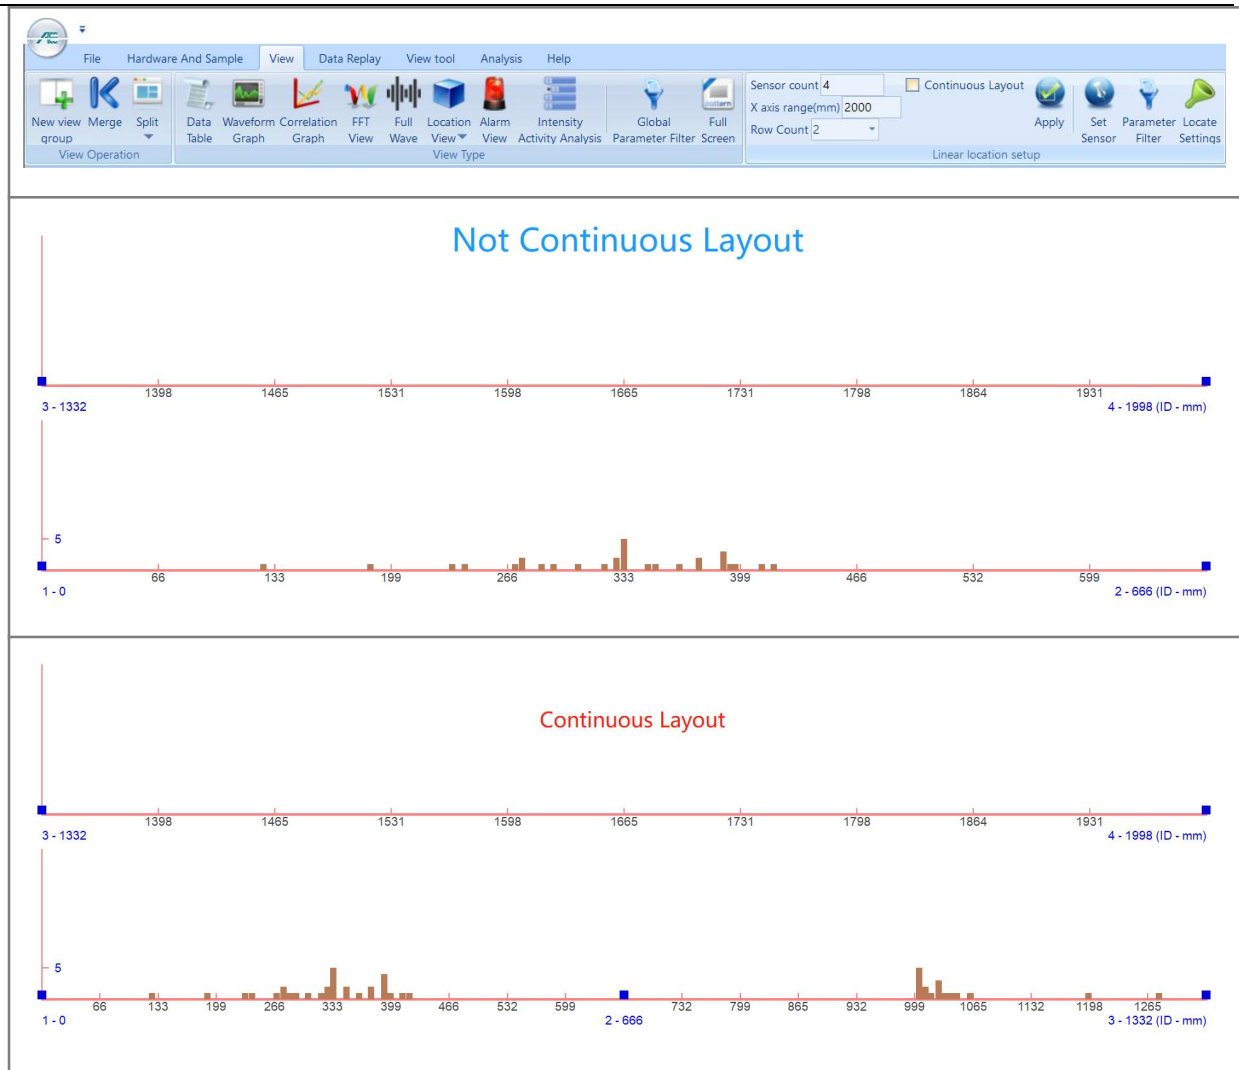

Fig. 6-61 Linear Location Graph Continuous layout difference
**Continuous Layout:** when there is more than 1 row, it determines if the last sensor of the current row should also be the first sensor in the next row. See figure 6-61 for example. There are four sensors and two rows. If the "Continuous Layout" is not enabled, the first row has Sensor#1 and #2, and the second row has Sensor#3 and #4. But when the "Continuous Layout" is enabled, the first row has Sensor#1, #2 and #3, and the second row has Sensor#3 and #4.